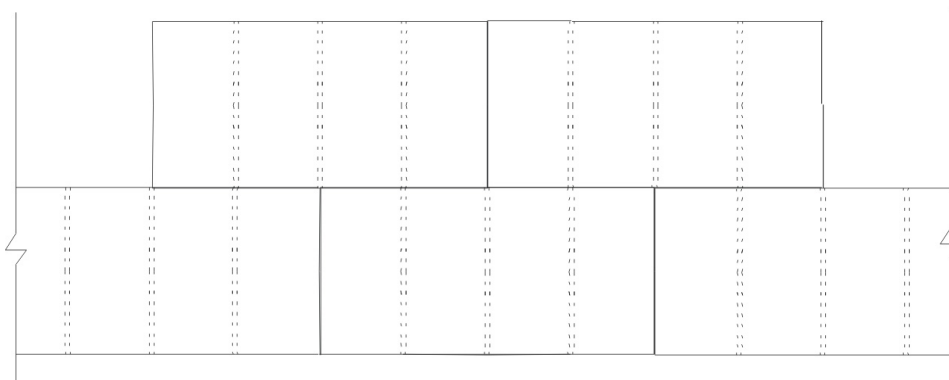

Figure 6
- .5 Install subsequent rows of insulation board in a running bond pattern (vertical joints staggered) as shown in Figure 6. Please note the alignment of vertical grooves is not required.